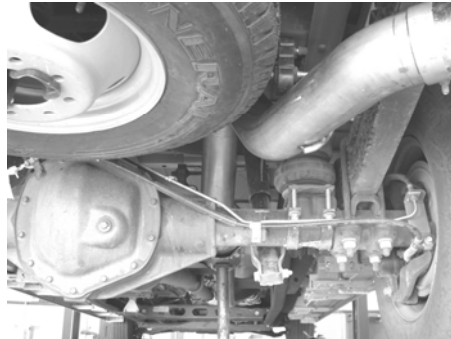

Figure 6
4. Place a clamp over the expanded end of the tail pipe assembly and set it into position as shown in figure 6 installing the hanger into the rubber bracket.